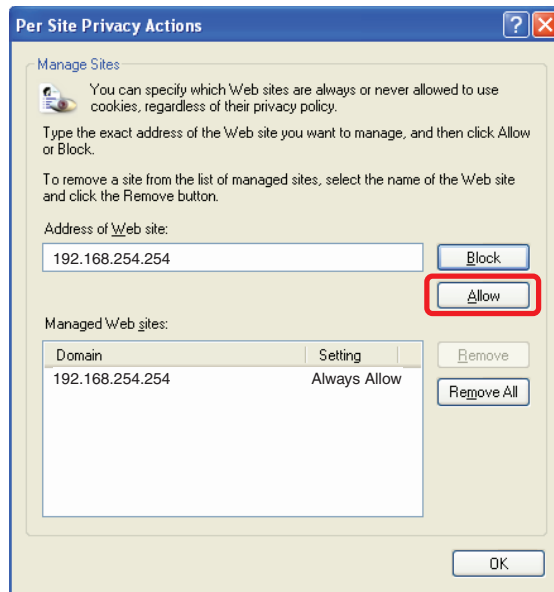

Figure 116. Per Site Internet Options
- If a high security level is required, click on the **Sites** button and allow the SME 100 web interface to use cookies (see figure 116).
4. Click the **Custom Level** button. The Security Settings window appears (see figure 116, next page).